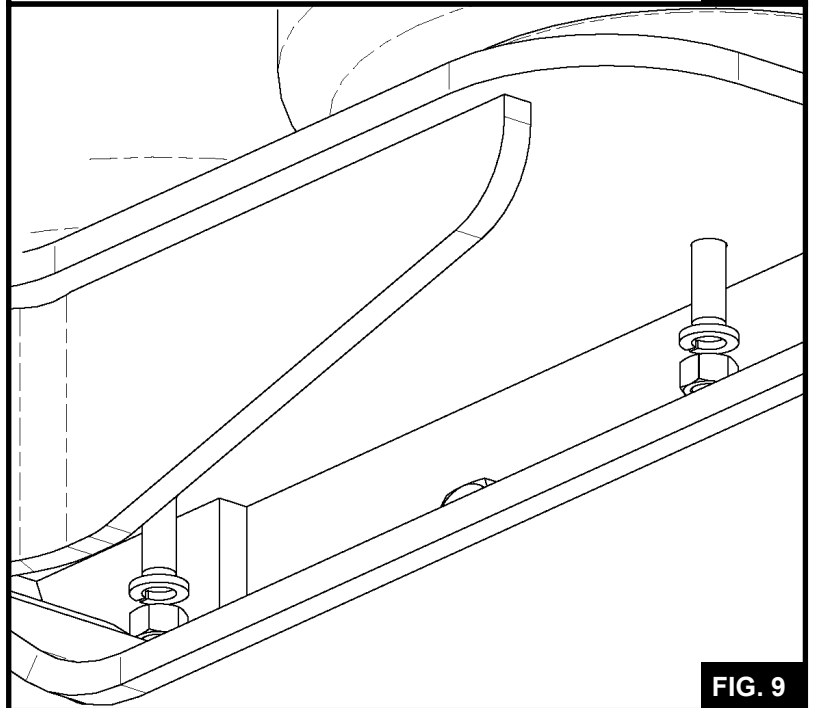

FIG. 9
7.3 Remove the air springs from the trailing arm by removing the nuts and lock washers from the bottom of the trailing arm connecting the bottom of the air springs (See FIG. 9).